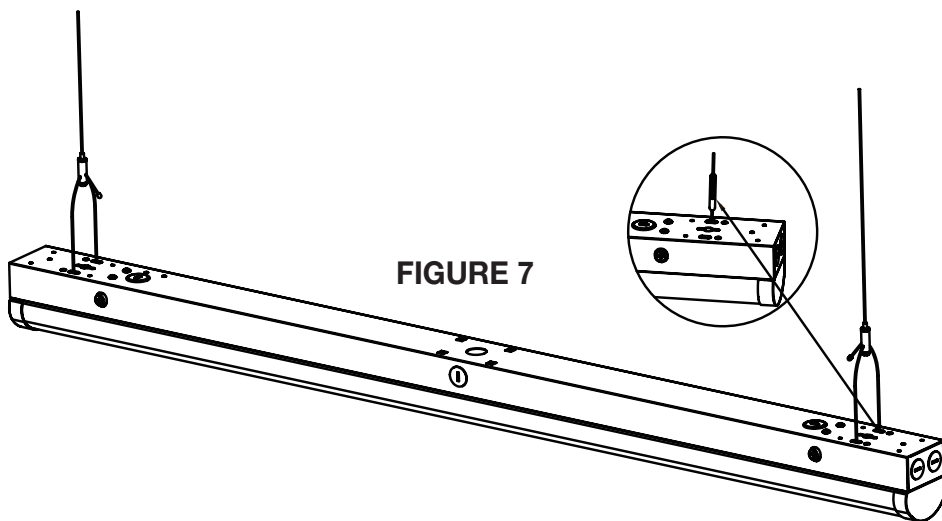

FIGURE 7
2. Fasten the other end of the installation cable to the luminaire. (Figure 7).